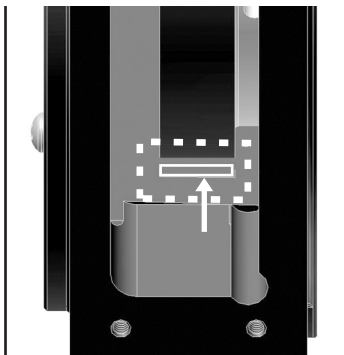

Figure 2.1
1. Remove a sensor plate or one of the sensors, and use the built-in gauge to check the location of the rotor (see Figure 2.1). Ensure the label marked "This side out" is facing away from the motor.